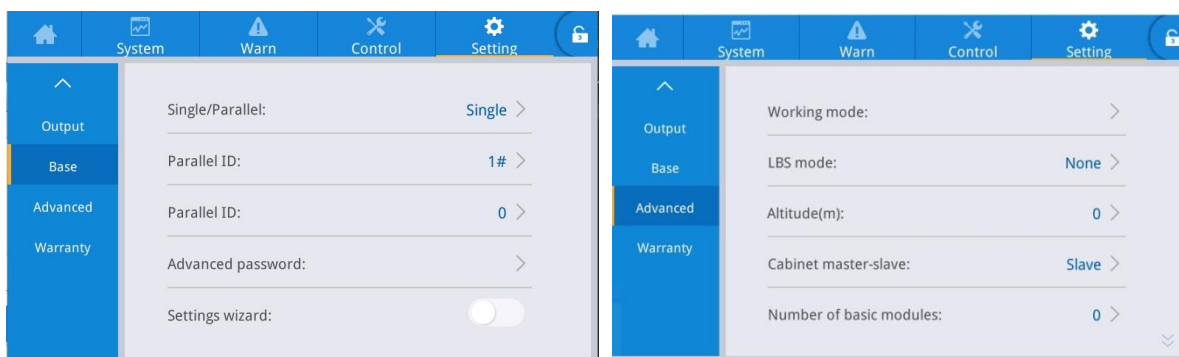

Fig.5-8 Parallel parameter setting interface
2. Set 1, and 2 in turn in the [cabinet number] of the setting interface of basic parameters. The parallel operation of at most 2 UPSs is supported, as shown in Figure 5-8.
3. Set the number of UPS in the parallel system in [number of system stands] of the advanced parameter setting of the setting interface, as shown in Fig. 5-8.
4. Set one UPS of the parallel system as mast and other UPS as the slave in the [rack master-slave setup] of the advanced parameter settings in the settings interface. The master-slave refers to the communication master-slave of the rack, that is to say, one UPS is the host for monitoring communication, and the other UPS are the slave for monitoring communication. The parameters of other UPS can be set on the communication host, and the slave automatically synchronizes the parameters of the master (for the independent battery pack, the battery parameters will not be synchronized), as shown in Fig. 5-8.